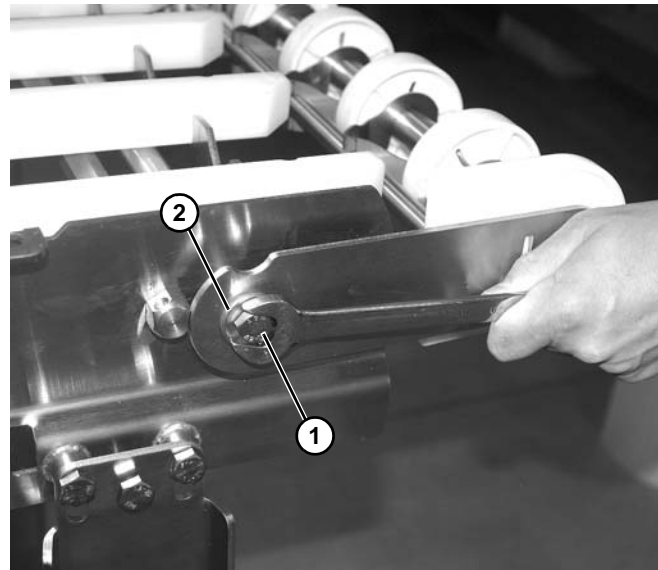

Figure 87
- Remove screw (**Figure 87, item 1**) and washer (**Figure 87, item 2**) on each side of idler end.